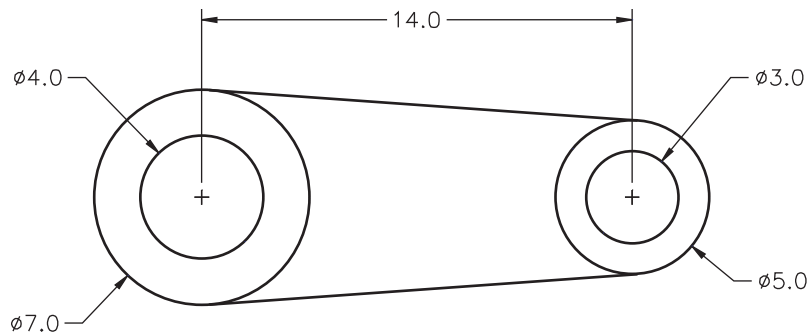

Fig. 10-10
2. Suppose your company supplies special machine parts for a plastic injection molding company. Draw the new design for a pivot arm to swing the mold halves apart, as shown in Fig. 10-10. Use the **Quick Setup** wizard and select the appropriate drawing unit of measurement and drawing area. Set the appropriate object snap modes. Do not include dimensions. Save the drawing as **injection.dwg**.